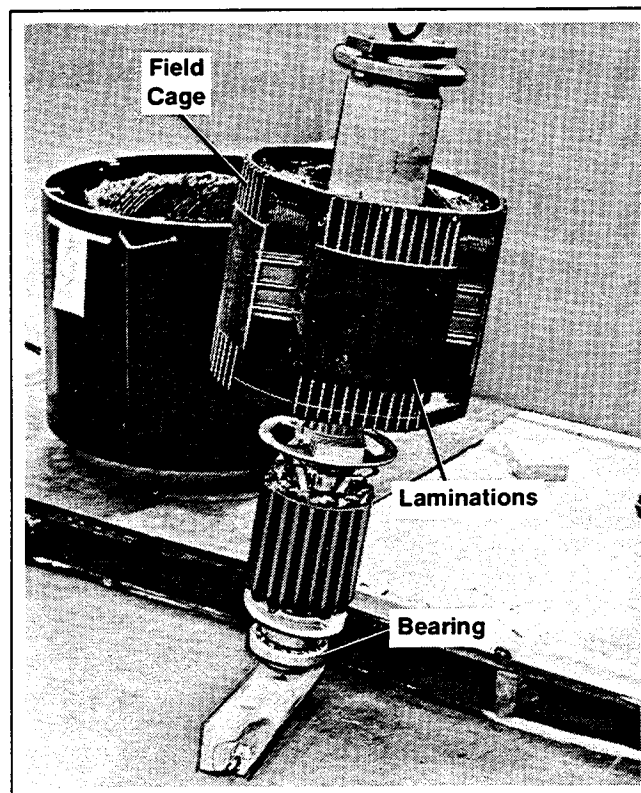

**Figure 5-6. Preparing to Remove Stator**
16. Fasten chains and hoist to stator. Remove bolts holding stator to end bracket. See Figure 5-6.